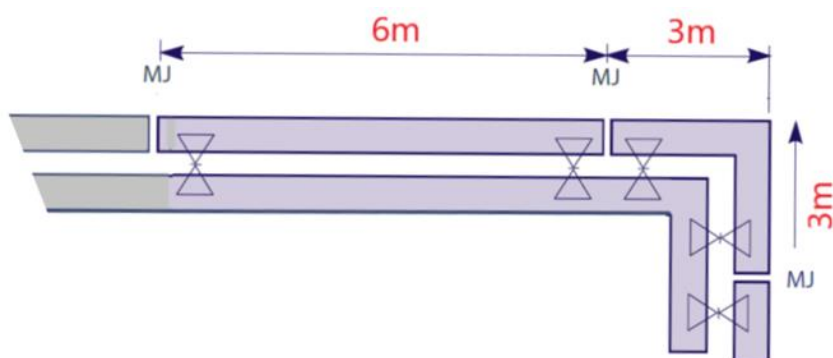

Figure 6 - Location of joint from a restrained edge
- The distance from the first vertical joint, from a restrained vertical edge of a wall, should not exceed half that of the 6 metres i.e. should be 3 metres from the corner. (Figure 6)